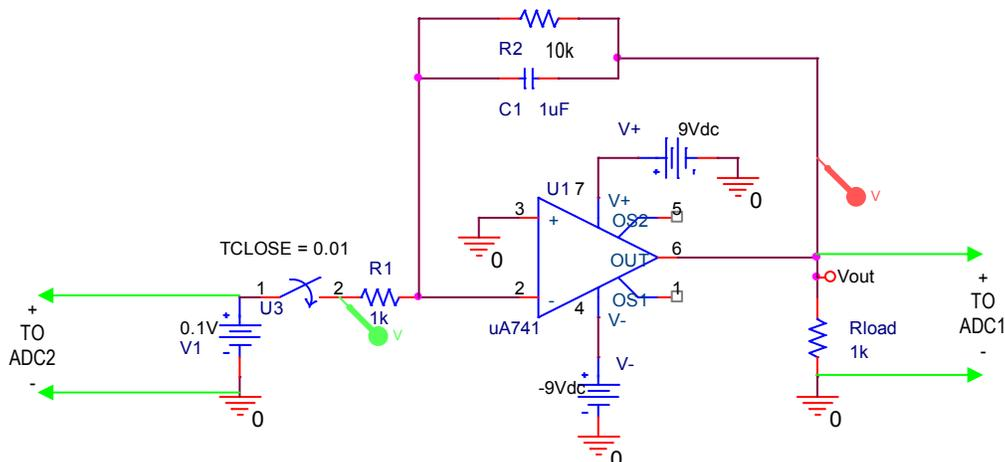

Figure C-4.
- Modify your circuit by replacing the AC source with a DC source and a switch as shown in Figure C-4.